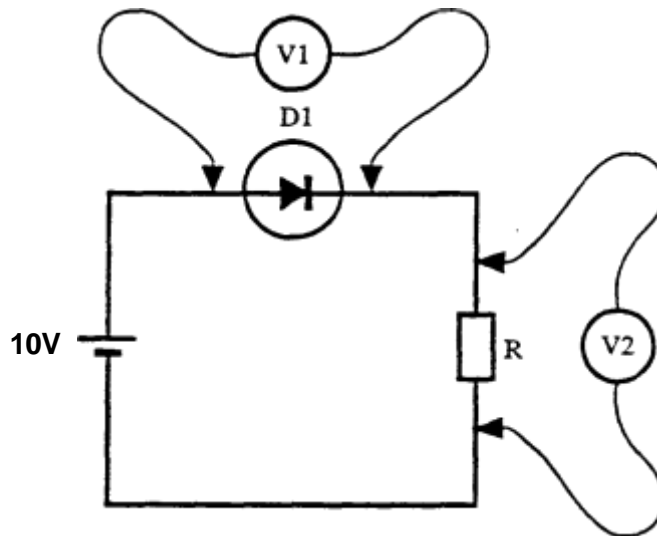

Figure 16.
2. The voltmeter in figure 16 readings V_1 and V_2 are most likely to be: